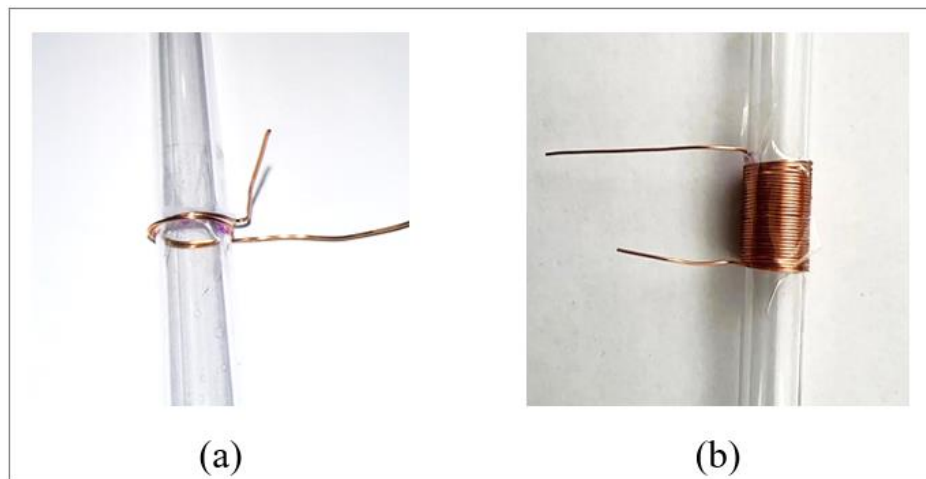

Figure 5(a) Initial turn taped to tube (b) Completed coil taped to tube
- Tape one end of the wire to the tube at the desired location leaving around 30 mm from the stripped end of the wire free from the tape, see Figure 5(a).
- On completion of the coil, firmly affix to the tube with more tape. If you have made the correct number of turns, there should be approximately 30 mm of wire left to make connection Figure 5(b).